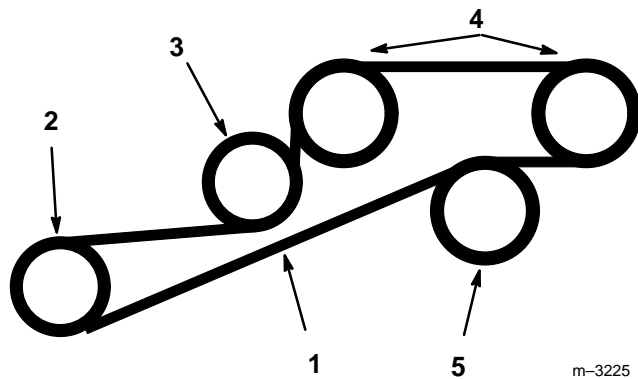

Figure 33
2. Push spring loaded idler down and remove traction belt from the engine, fixed idler and hydro pump pulleys (Fig. 33). Remove belt over clutch.
3. Install new belt over clutch and around engine, fixed idler and hydro pump pulleys (Fig. 33).
4. Push spring loaded idler down and align below traction belt. Release pressure on spring loaded idler (Fig. 33).